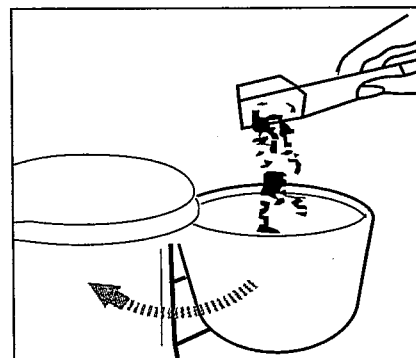

Figure 3
3. Place a #4 cone-shaped paper filter, or a permanent gold filter, into the Removable Filter Holder. Measure one level table-spoon of drip or regular grind coffee for each cup of coffee desired. (See Figure 3.) For stronger or milder coffee, adjust amount of coffee to suit your taste.